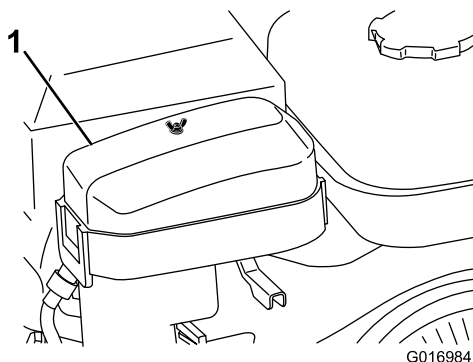

Figure 25
2. Remove the wing nut securing the air cleaner cover and remove the cover (Figure 25).